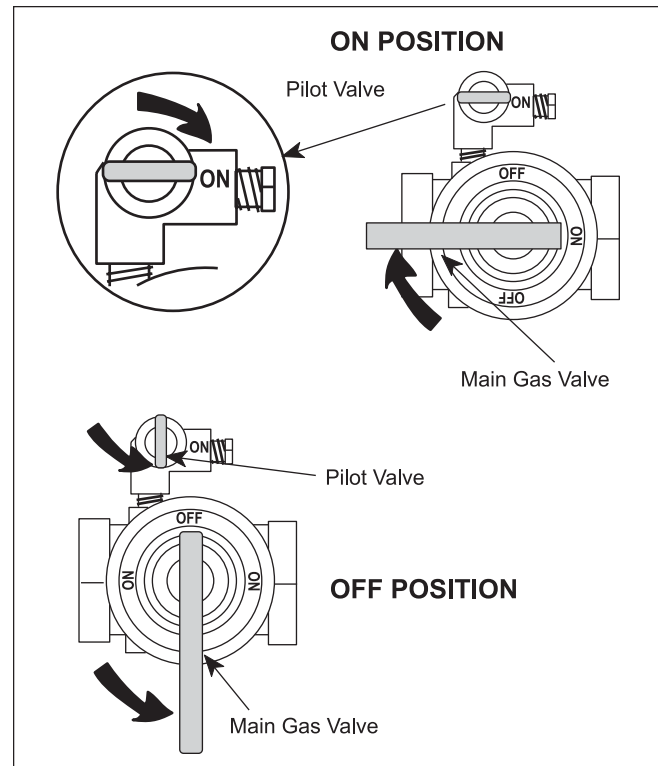

Figure 19. Gas Manual Valves.
- b. Turn off all manual gas valves and wait five minutes (see Figure 19).